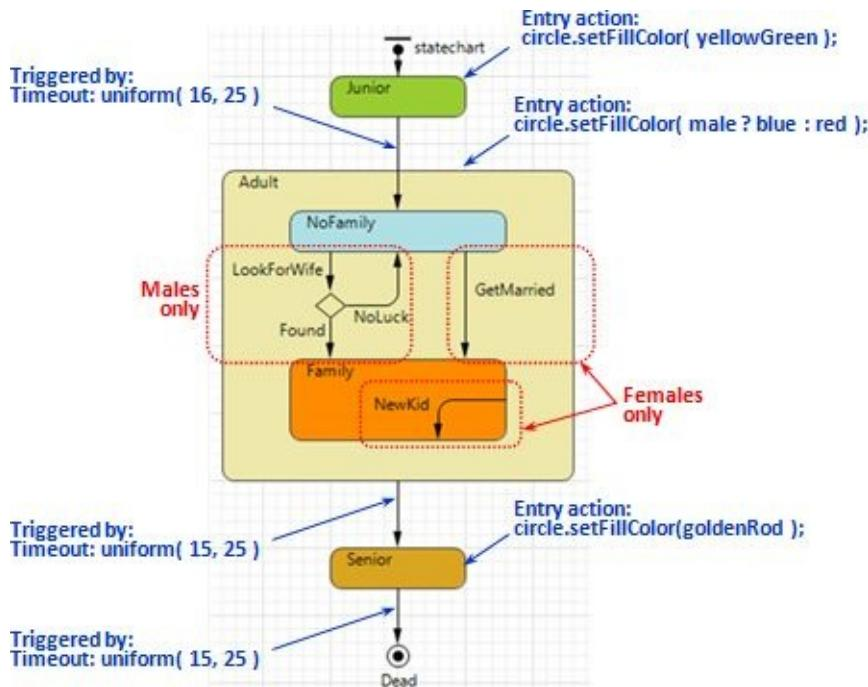

Figure 3.41 The statechart of a person. Other transitions are explained in the main text
11. Draw the statechart, as shown in Figure 3.41.